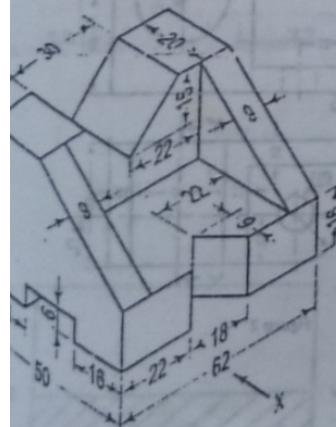

Figure 1
- b. Using first angle orthographic projection, draw the front elevation, plan and the left hand side view of the object in Figure 1, viewed from direction X.